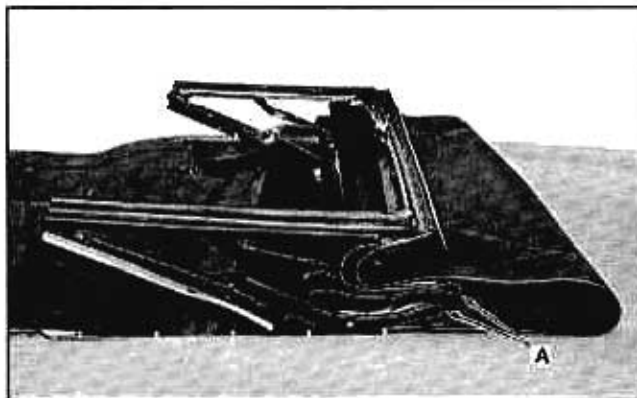

Fig. 7-6 Tuck Padding Into Compartment
6. Operate top control switch until top is approximately six inches from full down position. Tuck corners of padding A into top compartment to insure proper fit of top boot (Fig. 7-6).